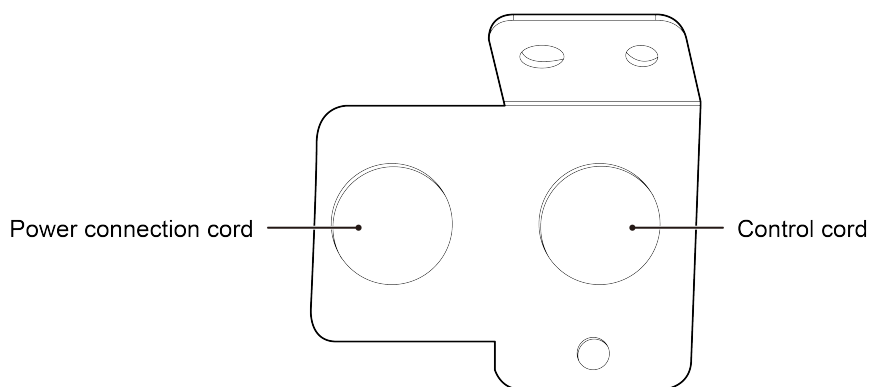

Fig. 5.6
- ① Only auxiliary devices approved by the appliance manufacturer or declared suitable with the refrigerant shall be installed in Indoor Unit.
- ② Do NOT install operating ignition sources (example: open flames, an operating gas appliance or an operating electric heater) in Indoor Unit.
- ③ No auxiliary devices, which may be a potential ignition source, are installed in Indoor Unit (example: hot surfaces with a temperature exceeding 700°C and electric switching device).
- (1) When routing the piping and wiring from the left or right side of the indoor unit, it is necessary to cut off the tailings of the pipe left on the holder of the unit.
- (2) Let the tubing and cord pass through the piping hole after tied up (refer to Fig. 5.6).
- (3) Hang the claw behind the indoor unit on the pothook on the wall panel, and move the unit left and right to check if the body is firm.
- (4) Guarantee that the installation height of the indoor unit should be 2.5m(8-1/4feet) above the floor.